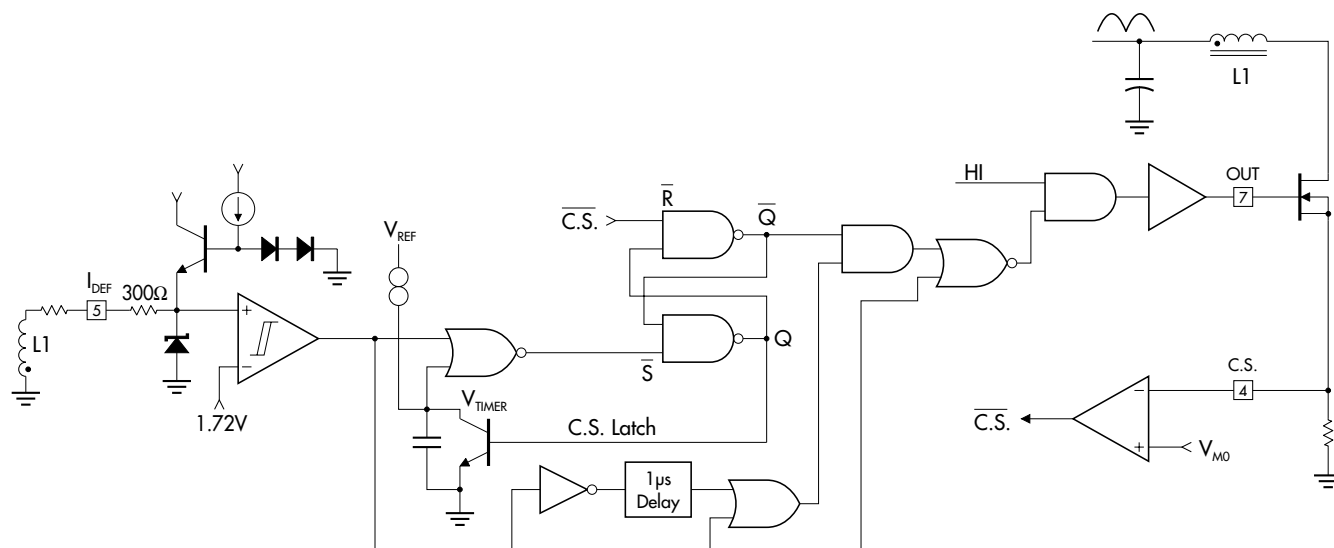

FIGURE 30 — START-UP TIMER & CURRENT DETECT LOGIC CIRCUITRY
The function of "current detect logic" is to sense the operating state of the boost inductor and to enable the output driver accordingly. To achieve this, the downward slope of the inductor current is indirectly detected by monitoring the voltage across a separate winding and connecting it to the detector input " I_{DET} " pin. Once the inductor current reaches ground level, the voltage across the winding reverses polarity and changes the " I_{DET} " input and the comparator output to the low state (See Figure 30). When comparator changes state, it sets the latch and turns on the output driver for a period of 1µs (typ.) regardless of any changes in the latch output (\bar{Q}) within this period. This ensures that if the C.S. comparator changes state due to any turn-on spike, the driver output remains on and does not turn off prematurely.
A start-up timer circuit eliminates the need for an external oscillator when used in stand alone applications. The timer, as shown in Figure 30, provides a means to automatically start the pre converter if the latch output \bar{Q} comes up in a wrong (HI) state. The timer capacitor ramps up and resets the latch to a low state, turning the output driver on.